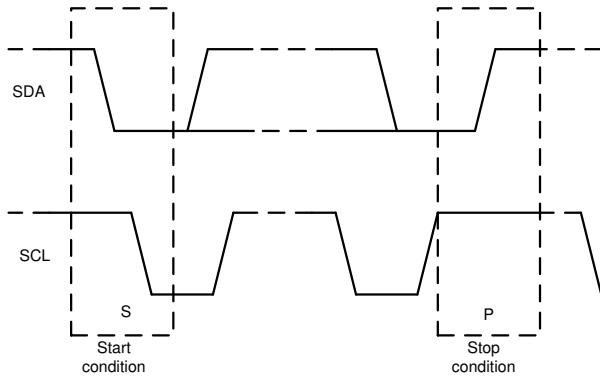

图 7-21. Start and Stop Conditions
1. The controller initiates data transfer by generating a start condition. The start condition is when a high-to-low transition occurs on the SDA line while SCL is high, as shown in 图 7-21. All I²C-compatible devices recognize a start condition.
4. To signal the end of the data transfer, the controller generates a stop condition by pulling the SDA line from low-to-high while the SCL line is high, as shown in 图 7-21. This action releases the bus and stops the communication link with the addressed target. All I²C-compatible devices recognize the stop condition. Upon receipt of a stop condition, the bus is released, and all target devices then wait for a start condition followed by a matching address.